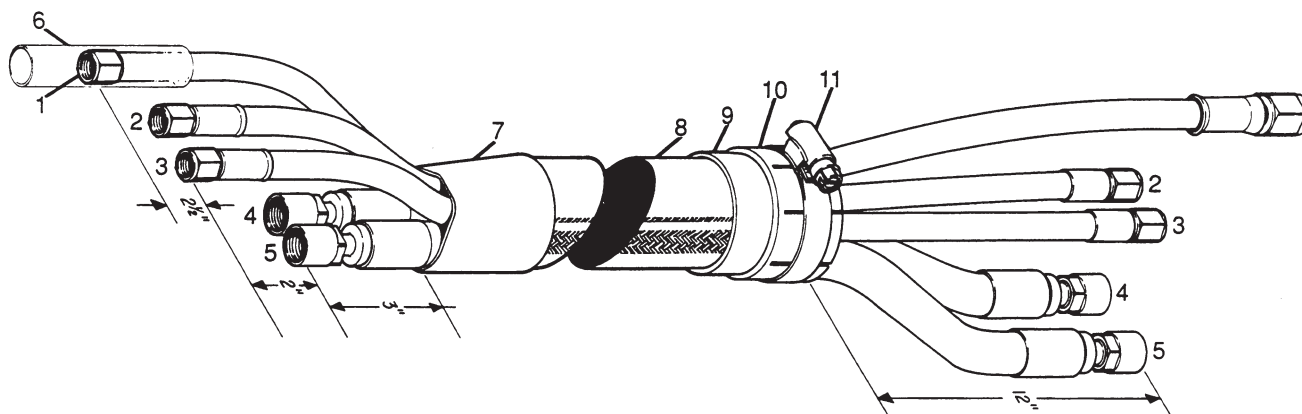

Figure 3-8 MAX200 Machine Torch Lead Set Assembly
To remove and replace individual torch leads, perform the following procedure and see Figure 3-8. Refer to Section 4, Parts List, pages 4-44 to 4-48 for machine torch lead assembly part numbers for different lead lengths and other torch lead parts.
2. Ensure the lead lengths (1-5) at both ends are in accordance with those called out in Figure 3-8.
4. Slide the shield braid (8) over the torch lead ends and pull the sheath until it approximates the length requirements called out in Figure 3-8.
6. Slide the heat shrink (7) over torch end of the shield braid. Heat the heat shrink until it tightly bonds around the shield braid and torch lead.
7. Replace the compression ring (9), shield collar (10), and hose clamp (11) over the power supply end of the shield braid. Tighten the hose clamp.